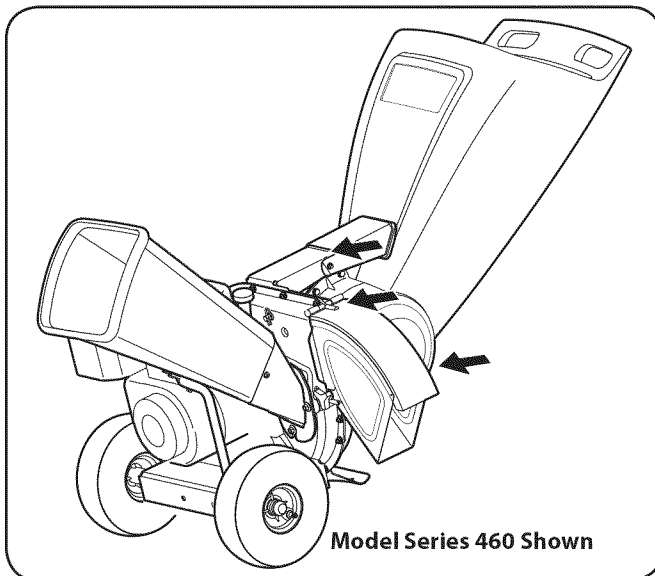

Figure 6-1
1. Lubricate the release rod and spring with light oil once a season. See Fig. 6-1.